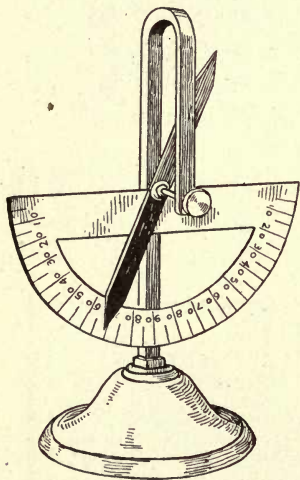

FIG. 158. — A Dipping Needle.
**The Dipping Needle.** — Just as the iron filings arranged themselves so that they were lying in the direction of the lines of magnetic force at that point, so a compass needle which is balanced and free to move in a vertical plane will arrange itself parallel with the earth's magnetic lines of force at that place (Figure 158).